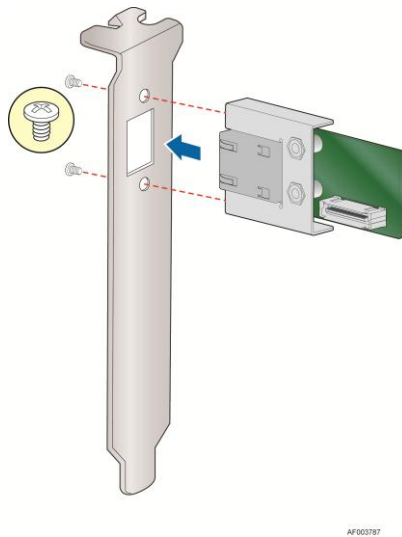

Figure 20: Mounting the Intel® Dedicated Server Management NIC module to the PCI Slot bracket
3. Secure the metal fastening bracket with NIC module to PCI slot bracket with two screws as shown in Figure 20. This will align the RJ-45 with the opening in the PCI slot bracket.